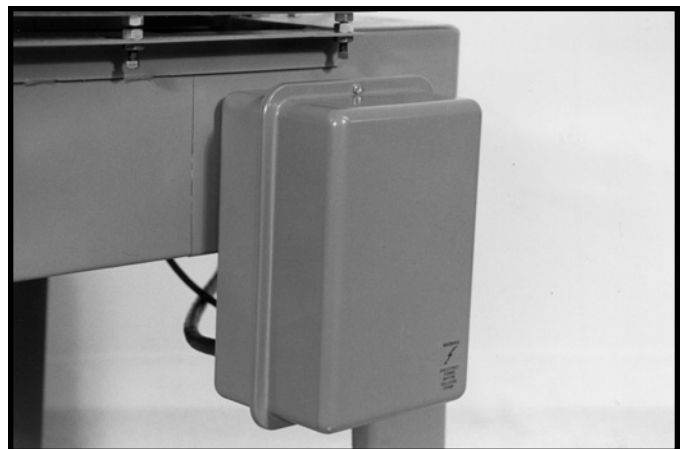

Fig. 15
3. Fig. 15, illustrates the starter box assembled to the base.